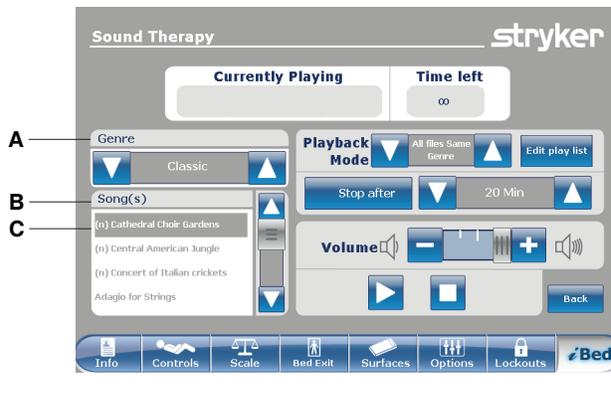

Figure 76: Sound therapy
2. Tap the up and down arrows to select a genre (A) (Figure 76 on page 87).
3. Tap the up and down arrows to scroll through the available songs in the **Song(s)** area (B) (Figure 76 on page 87).
Note: The song that is currently selected is highlighted in gray (C) (Figure 76 on page 87).
To return to the **iBed** main menu, tap **Back** (Figure 76 on page 87).
Tap **Edit play list** (Figure 76 on page 87).